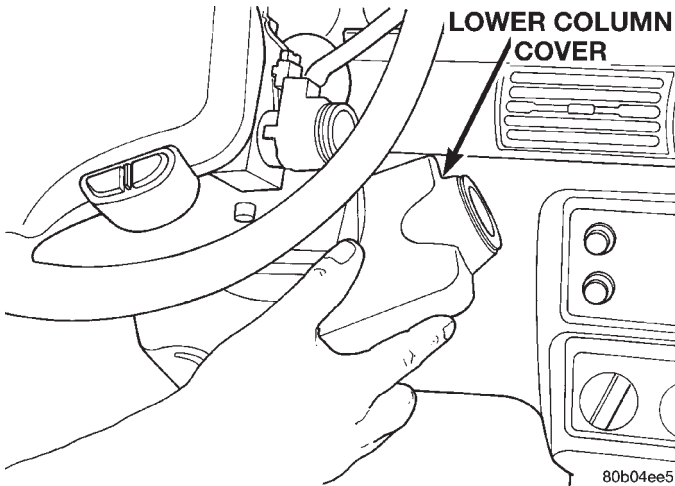

Fig. 16 Lower Column Cover Removal
(5) With key removed, remove lower column cover (Fig. 16).